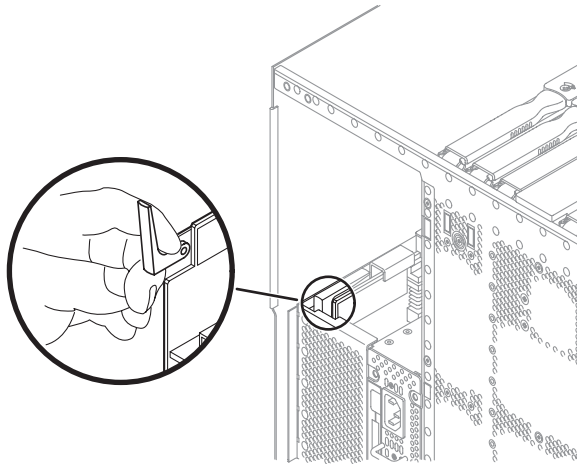

FIGURE 8-5 Unlatching the Power Distribution Board Ejector Lever
10. **Raise the power distribution board ejector lever until it is vertical (FIGURE 8-5).**
7. Move the ejector lever to the horizontal position (FIGURE 8-5).